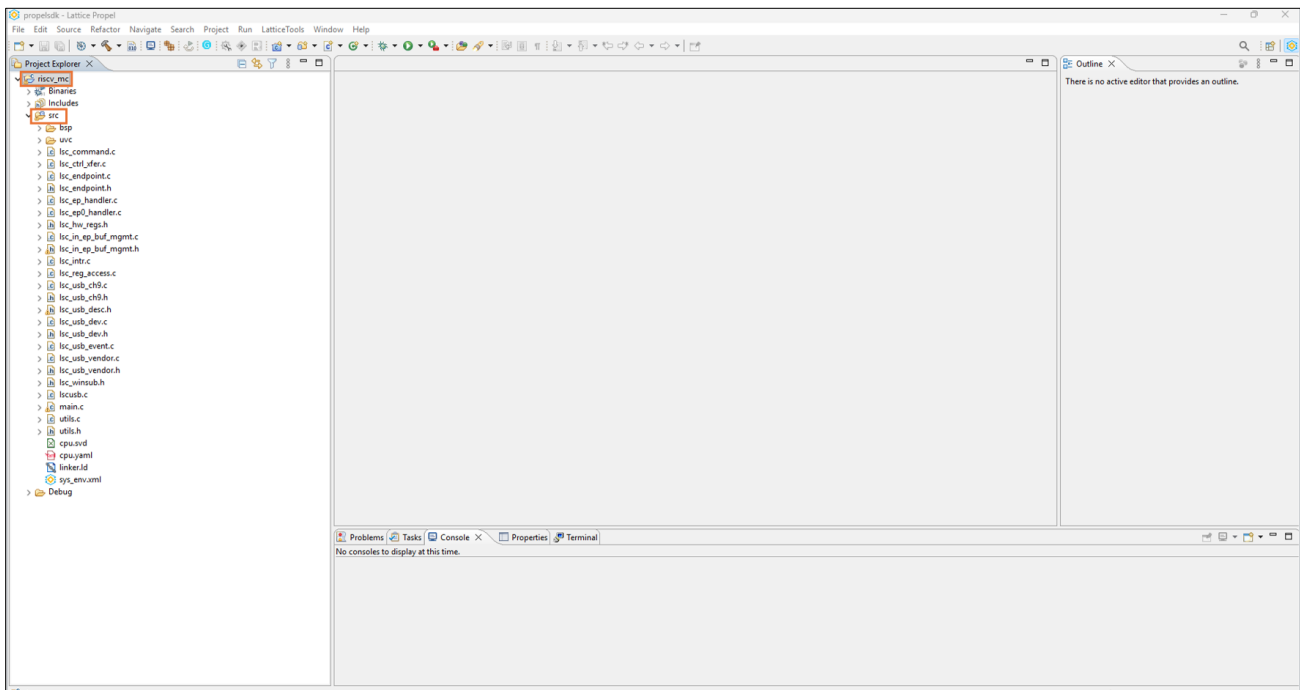

Figure 5.5. Navigate the Propel SDK Project
7. Navigate to **riscv_mc > src** to expand the project file list, as shown in Figure 5.5.